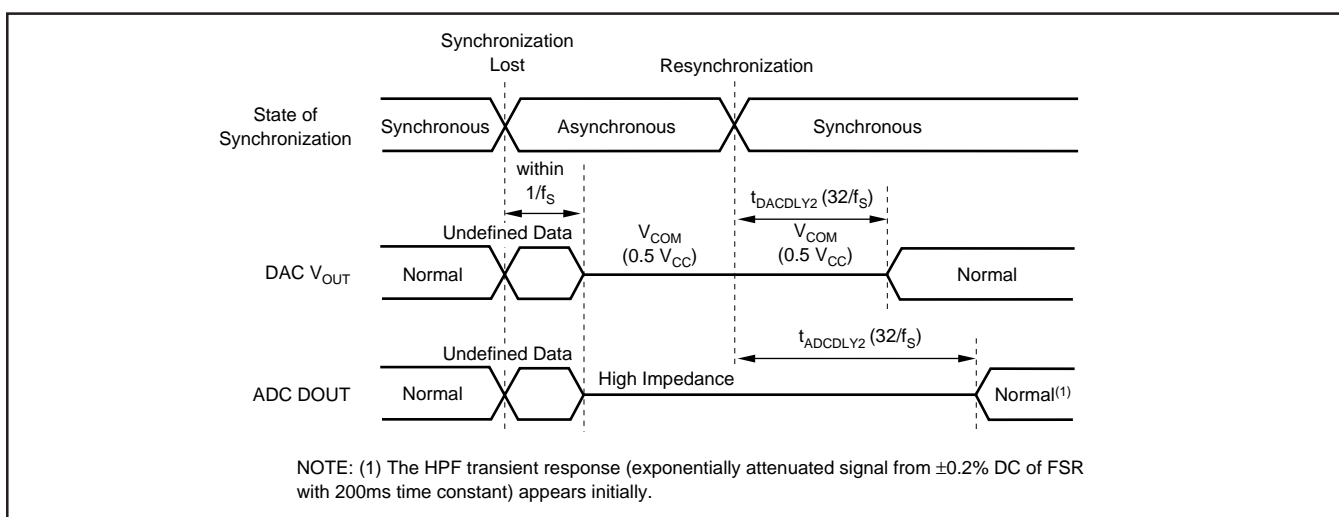

FIGURE 10. Loss of Synchronization Operation and Timing.
The PCM3500 requires that FS and BCK be synchronous with the system clock. Internal circuitry is included to detect a loss of synchronization between FS and the system clock input. If the phase relationship between FS and the system clock varies more than ± 1.5 BCK periods, the PCM3500 will detect a loss of synchronization. Upon detection, the DAC output is forced to $0.5V_{CC}$ and the DOUT pin is forced to a high impedance state. This occurs within one sampling clock (FS) period of initial detection. Figure 10 shows the loss of synchronization operation and the DAC and ADC output delays associated with it.